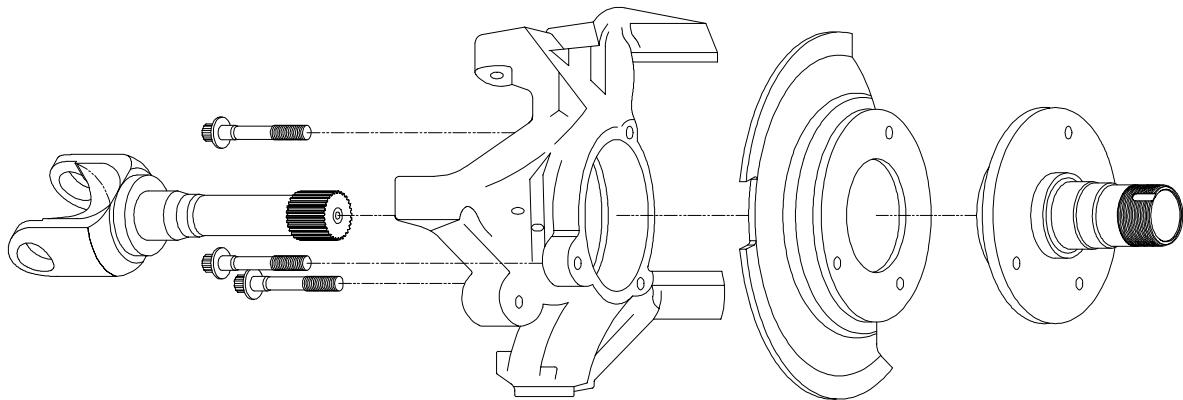

Figure 4. Exploded knuckle
7. Remove 3 bolts retaining the original hub (using 13mm 12pt socket) and bearing assembly. Do not disassemble the bearing assembly from axle shaft. See Figure 4. (For location reference only)
8. Remove axle shafts, brake shield, hub and bearing pack. See Figure 4. (For location reference only)
17. Place spindle over outer axle shaft and bolt on to steering knuckle. Torque 3 bolt to 75 ft. lbs. See Figure 4.